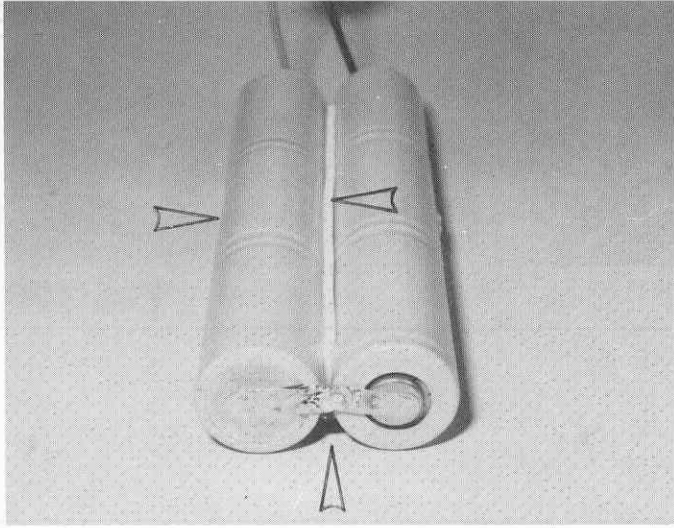

Fig. 183
□ **Fig. 183** Now we'll assemble the batteries. You'll notice there should be one positive and one negative end on each end of the battery pack. There is also a battery assembly drawing page in the back of these instructions. Attach the 2 battery sticks together with servo tape, as the photo shows so the tabs can be soldered together. If the tabs are too short, connect them with a piece of wire and rosin core solder together, as shown.